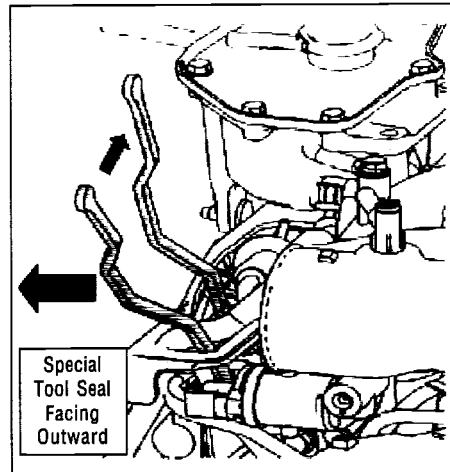

Fig.10: Insertion of Special Tool through the upper opening for Rear Bolt (RH)
- When tightening the rear bolt, the Special Tool Seal should be facing outward (as shown in Fig.10). *Note: In some cases, there may not be sufficient clearance for the wrench to fit between the bolt and fuel line. In this case, it will be necessary to use a 10mm open end wrench.*